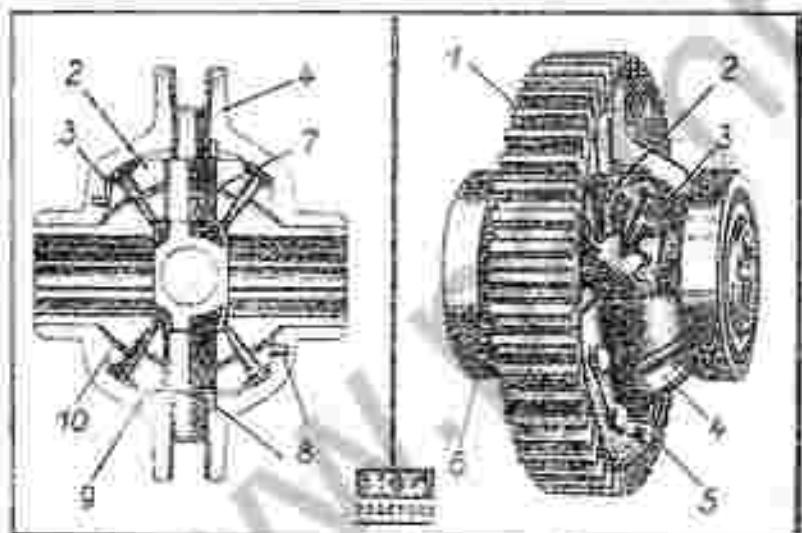

Fig. 75.
2. Unscrew bolts and nuts holding the wheels to the rear axle flange (1) Fig. 75 and remove wheels.
Now take out the differential from above. If bevel gears have more than .5 mm play, the bronze thrust pads (9) and (10), Fig. 75, must be renewed. Assemble the differential by the identification numbers stencilled on the respective parts.